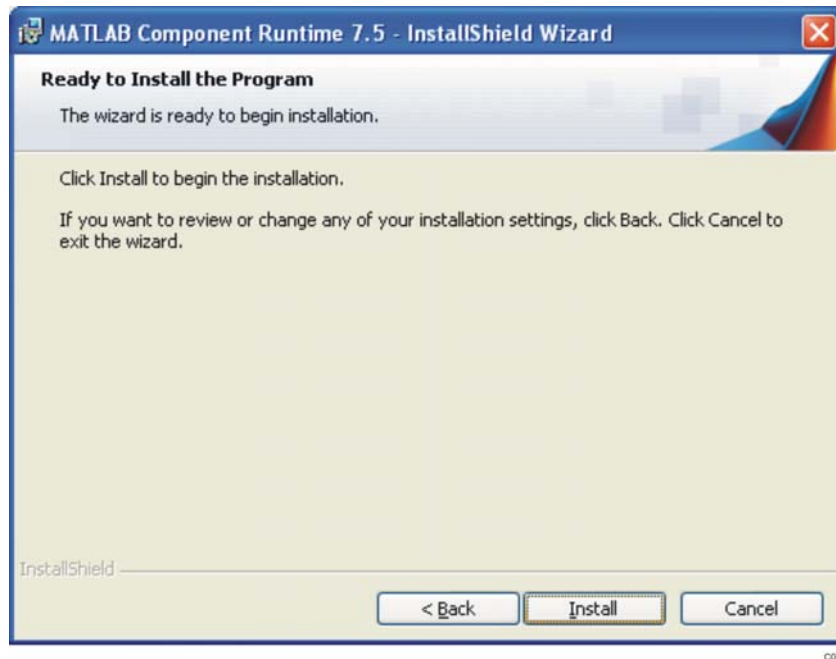

Figure 10. Ready to Install the Program
5. When the *Ready to Install the Program* screen (Figure 10) displays, click *Install* to begin the installation. The installation lasts approximately five minutes.